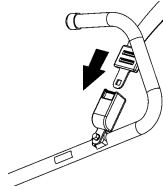

FIG. 18 FASTEN OCCUPANT RESTRAINT BELT
1. Fasten OCCUPANT RESTRAINT BELT (FIG. 18) leaving 3" - 4" of slack in belt.